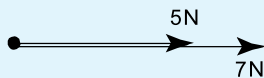

Figure 4.30
7. The magnitude of the resultant of the vectors shown in Figure 4.30 is: